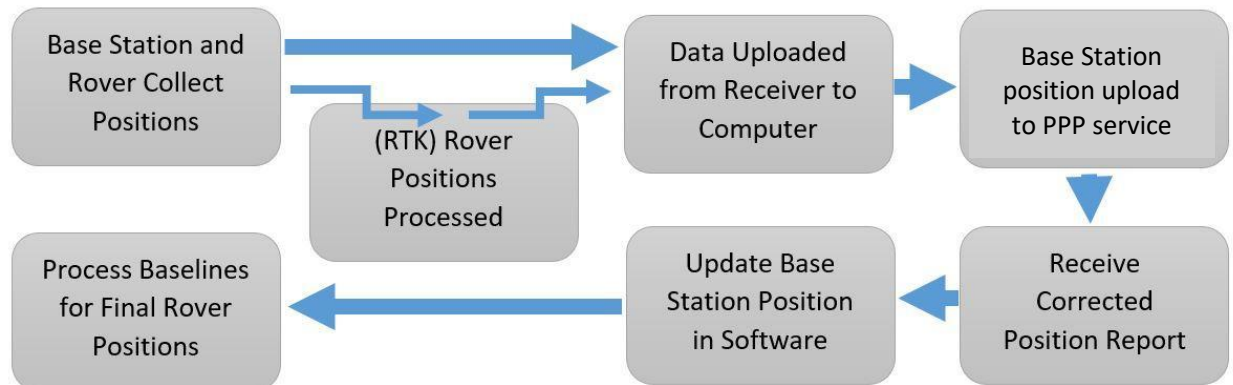

Figure 4. RTK and PPK workflow.
7. **Note:** It is necessary to know which type of kinematic system (RTK or PPK) you will use before continuing. Workflow processes (diverge depending on whether processing is done in real time or after in a lab (Figure 4).